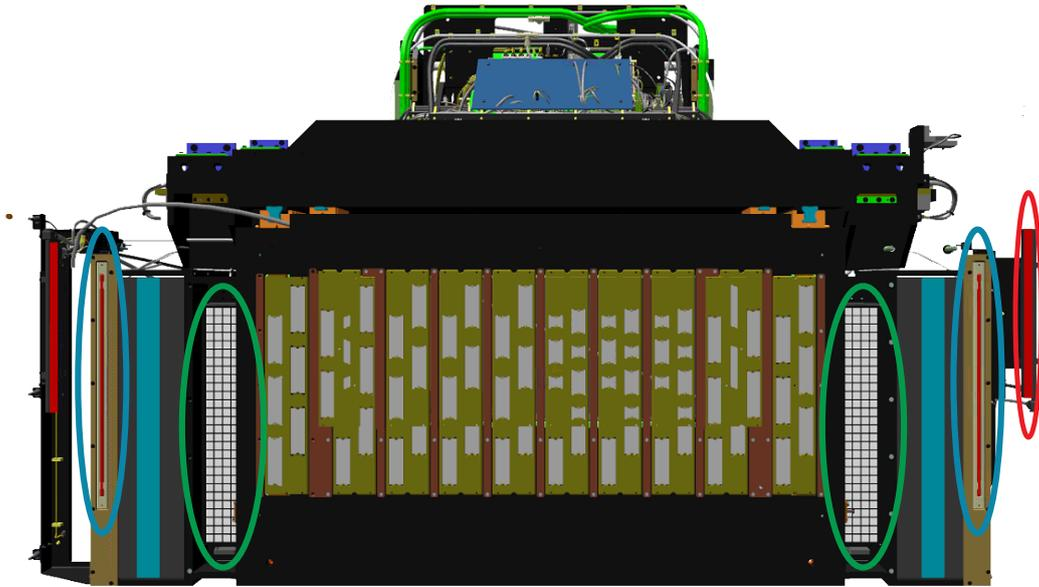

Fig.3-5: Carriage Bottom
- Two LED Protection Units (*outlined in green in Fig.3-5*).
- Two collision sensors (CS) (*outlined in blue in Fig.3-5*).
- One anti-static ionizer (AS) (*outlined in red in Fig.3-5*).
The curing module on the right side (*outlined in black in Figure 3-5*) is also equipped with one needle impact sensor. They will prevent collision of the head in case that the media thickness is larger than the value entered.